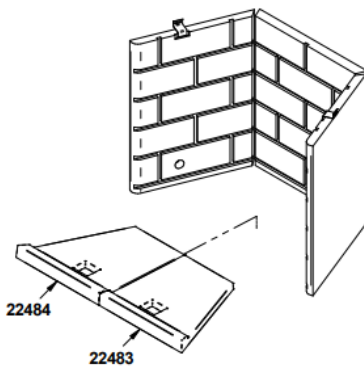

Figure 42.2
2. Remove the bottom refractory panel (22198). **Figure 42.2**